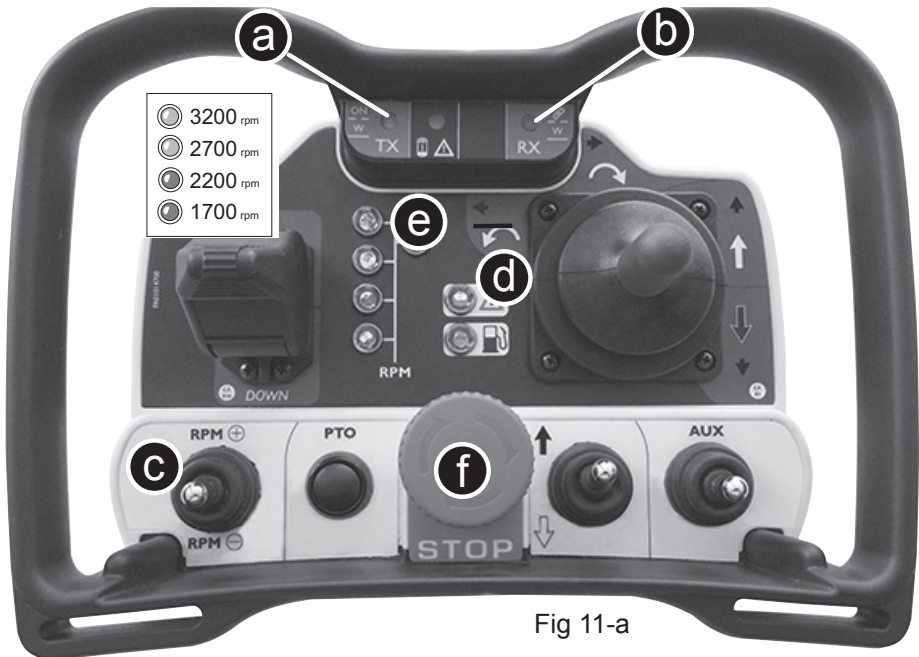

Fig 11-a
To connect the Radio Control press the Green Button (1 - Fig.10) on the left hand side of the remote control and wait until the 2 warning lamps green (a) and blue (b) (see Fig. 11) start to blink; then push again the green button (1 - Fig.10). The warning lamps stop blinking and the Buzzer stop to sound : the radio control is now linked .
5.2 ENGINE START(fig.11)